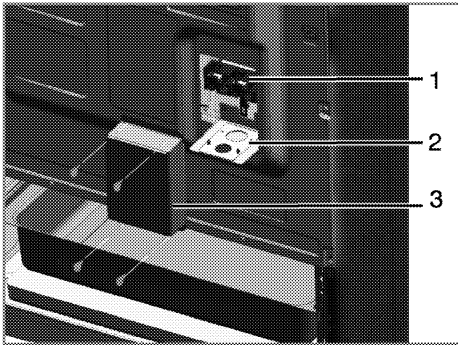

Fig.4
Loosen the screws on rear acces cover and take out the terminal block cover see Figure 4.
3. Make sure all screws are tightened securely and replace the rear access cover. See Figure 4.
- 5 Make sure all connections are Torque 35 lbs/inches tightened securely and replace the rear access cover. See Figure 4.